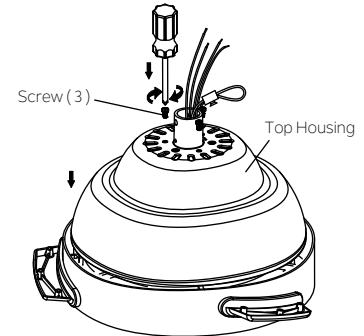

Fig. 6
Step 2. Carefully feed the fan wires up through the center hole of top housing, place the top housing over the motor body and align the holes. Insert three (3) screws from the hardware pack into the holes and securely tighten them. (Fig.6)